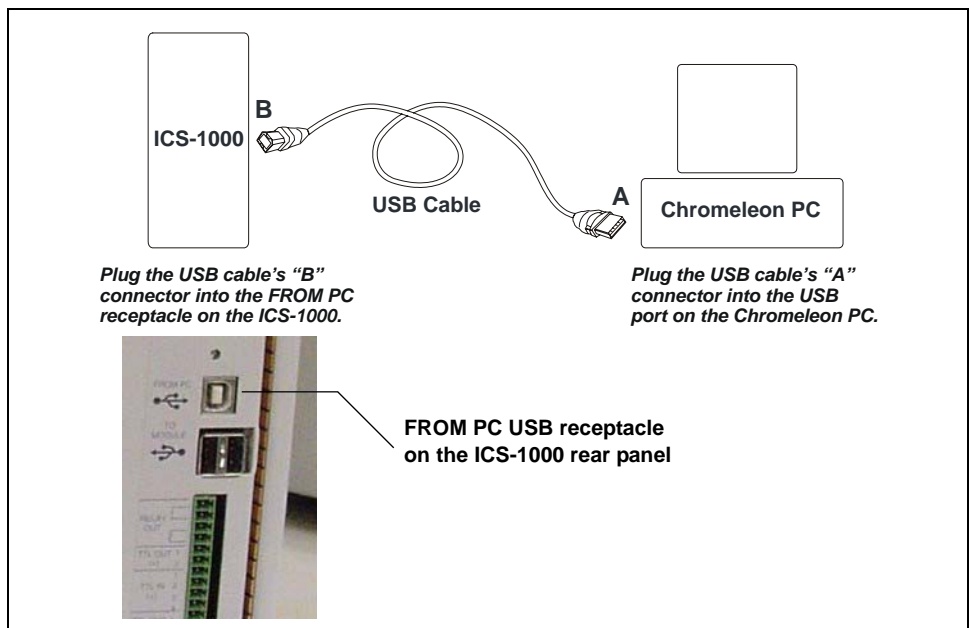

Figure B-7. Example Connections: One ICS-1000 Connected to the Computer
2. Plug the cable's "A" connector into a USB port on the Chromeleon PC and plug the cable's "B" connector into the USB receptacle (labeled **FROM PC**) on the ICS-1000 rear panel (see Figure B-7).